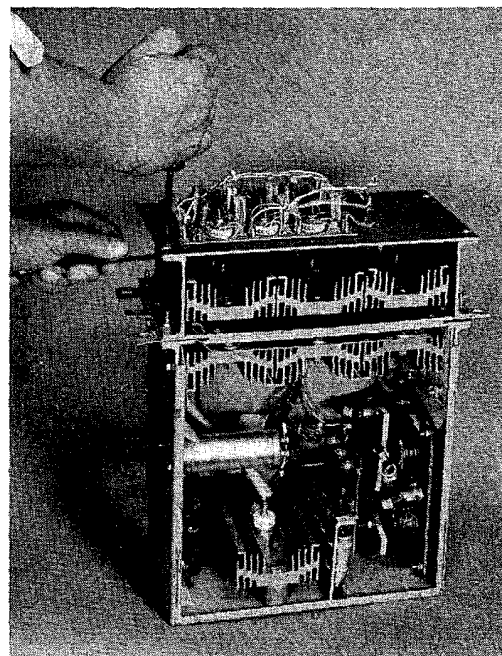

FIGURE 13
4. Remove 4 machine screws and nuts that secure the front red plastic insulation cover to the converter module. See Figure 13.